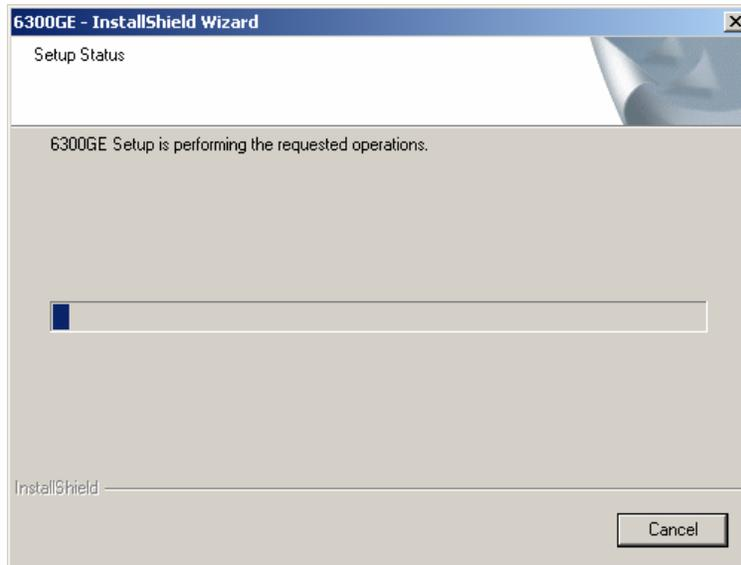

Figure 9
- The Setup Status window will appear (Figure 9) showing the user the status of the installation procedure as it proceeds. A progress bar will visually indicate the installations progress while text will detail the module component being installed.